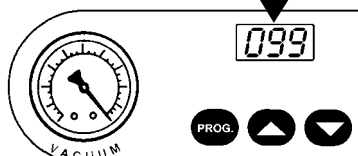

Fig. 3B
- d) Adjust the "VAC" function on the control panel to a value 99% (digital versions with sensor) (Fig.3B)